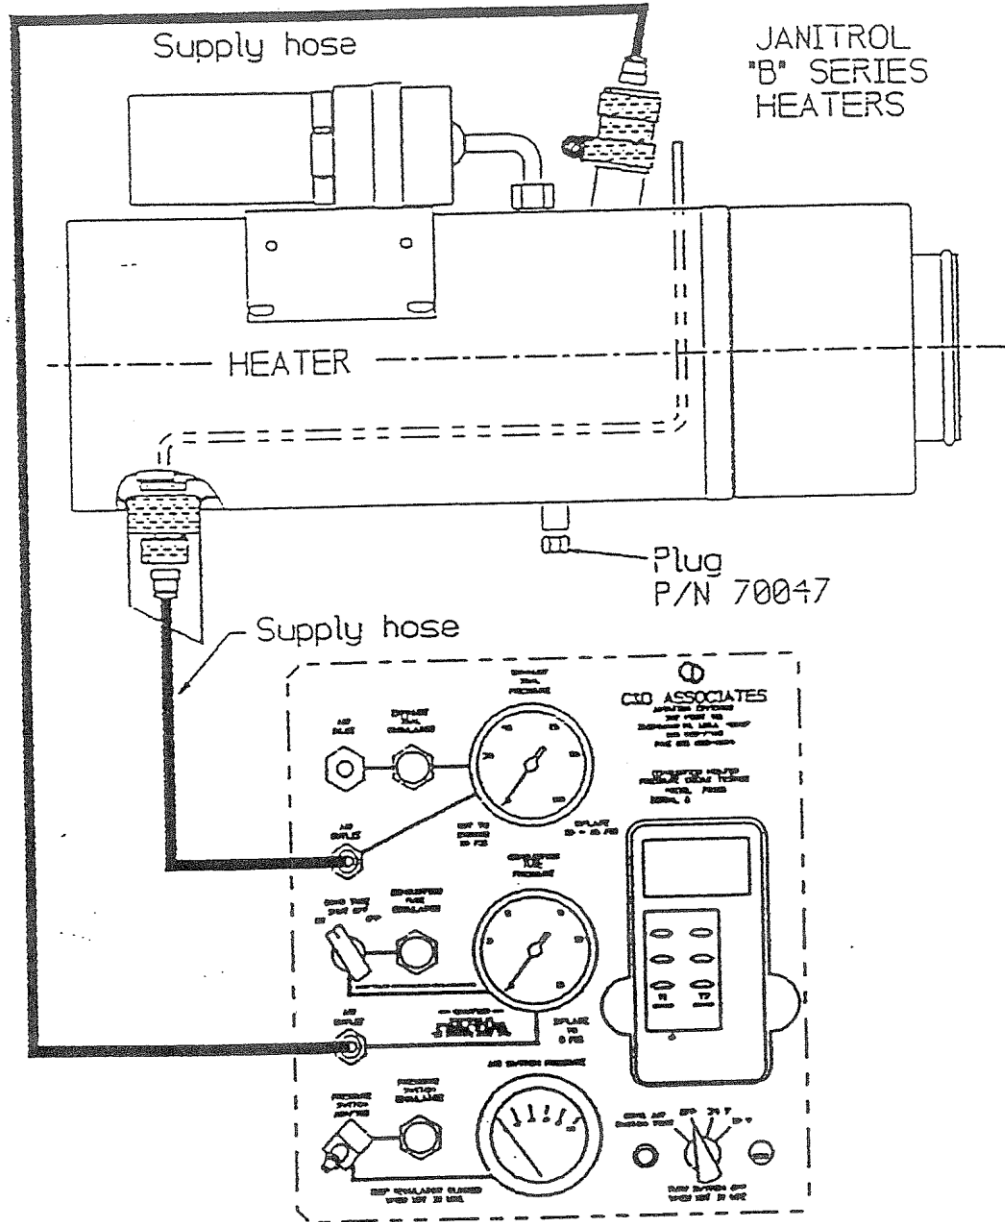

Fig. 1
- ➔ **Pressure Decay Tester (PDT) Setup:** To conduct the pressure decay test, the heater must be sealed at all openings into the combustion chamber assembly. This includes the combustion air inlet tube, combustion air pressure switch connection (on Janitrol), fuel drain and exhaust tube. See Fig. 1
- The airflow switch is mounted directly on the heater (Fig. 1). Identify and disconnect two (2) wires from terminal from terminal switch. Remove the nut, washer, clamps, and/or screws and pull straight up on the airflow switch assembly to remove it. On the 940 series it will be necessary to remove the thermal fuse, if so equipped, and the elbow from combustion tube testing.